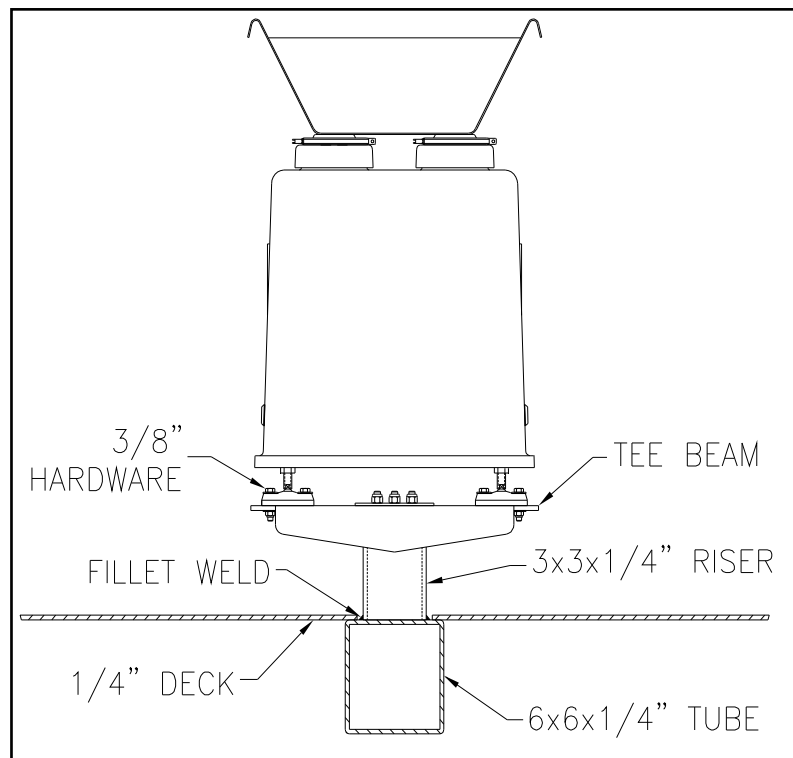

Figure 3-7 – T-Pedestal Welded to Central Spine
- Every distribution line that includes a FastBack® Model 90E or 90E-G2 should have a central spine, consisting of 6x6x1/4-inch tubular steel, that runs down the center of the line, especially when T-pedestals are used to elevate the conveyor. T-pedestals should be welded to the 6x6x1/4-inch central spine as shown in Figure 3-7. When the FastBack® arrives, the articulating feet should be bolted to the T-pedestals (see Section 4 – Installation Procedures).